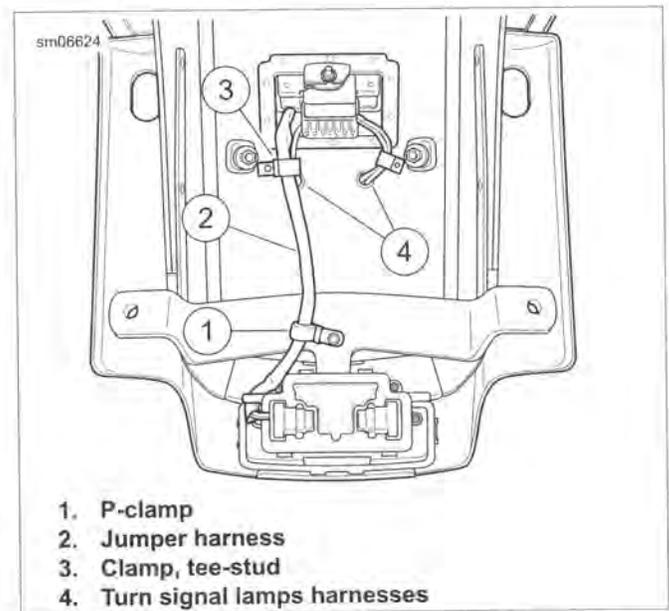

Figure 7-26. Tail Lamp Jumper Harness (models with tail lamp)
- Canadian Models:** See Figure 7-26.
- Disconnect jumper harness (2) from the rear fascia lamp and the tail lamp.
- Route jumper harness (2) from tail lamp to the fascia lamp and connect to each lamp.